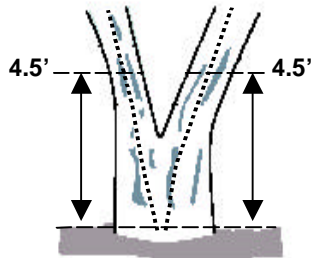

Figure 10. Forked below 1.0 ft
- Trees forked below 1.0 ft. Trees forked in this region are treated as distinctly separate trees (Figure 10). Distances and